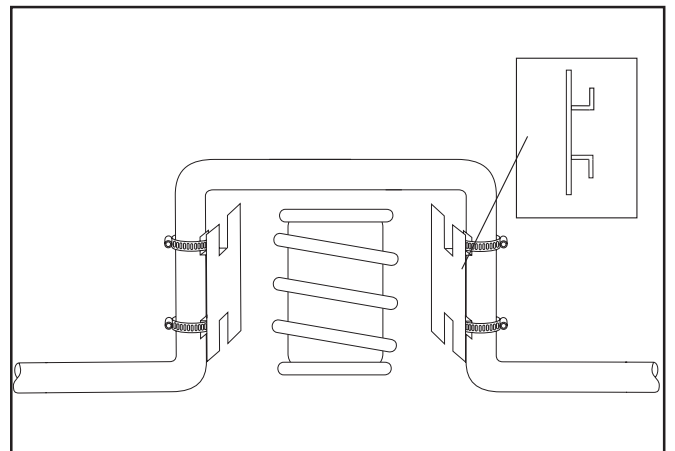

Figure 9
3. Bend the heat shield tab out at a 90° angle to form an "L" shape. Repeat on the other tab (Figure 9). Position the heat shield and insert the heat shield tabs beneath the two radiator clamps. Tighten the clamps (Figure 9).
5. Install a heat shield on both sides of the cylinder/spring (Figure 9).